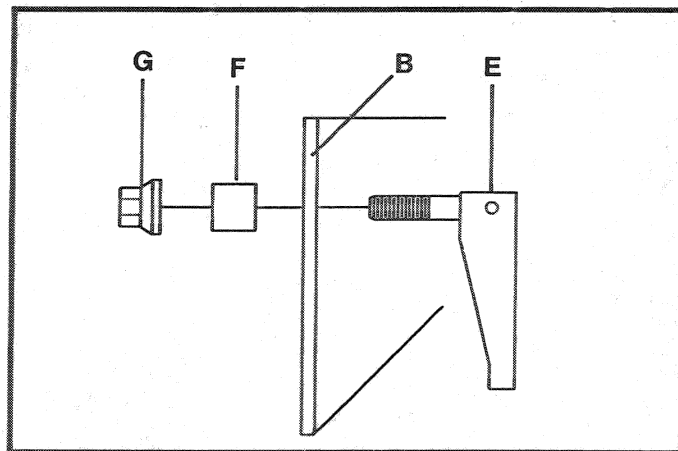

Fig. 52
3. Insert locking lever (E) Fig. 52, through the hole in left edge of motor cover (B). Assemble spacer (F) over threads of lever (E), and fasten lever to motor cover with lock nut (G).